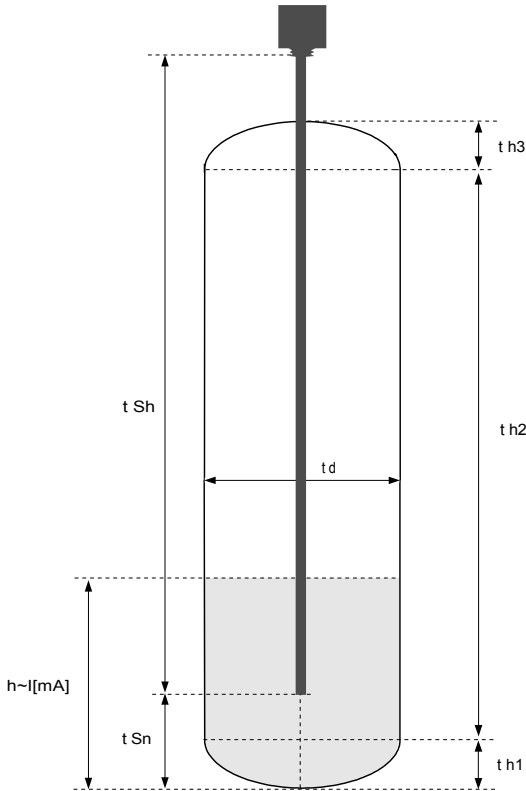
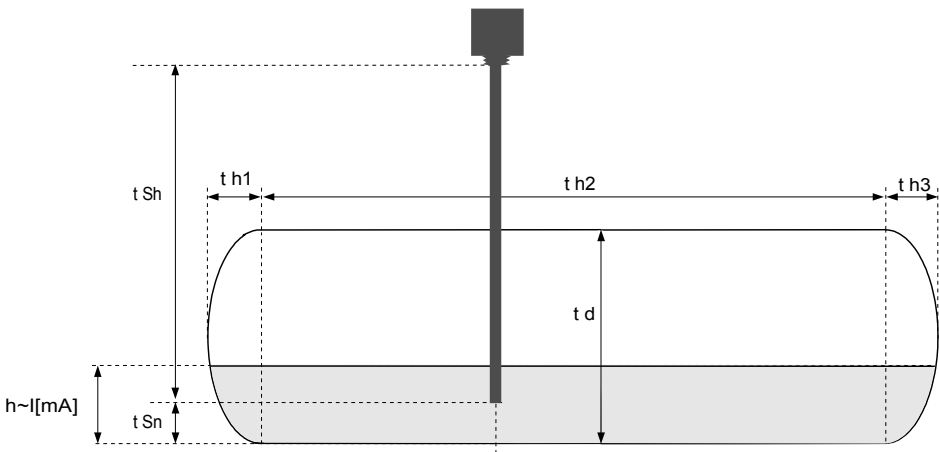

Figure 7.1 Parameters of cylindrical tank in vertical position.
Figure 7.2 Parameters of cylindrical tank in horizontal position.
**„t h1”, „t h2”, „t h3”, „t d”** - the parameters defining shape of cylindrical tank (Figure 7.1 and Figure 7.2).
level of liquids, gases or solids in the tank (Figure 7.1, 7.2).